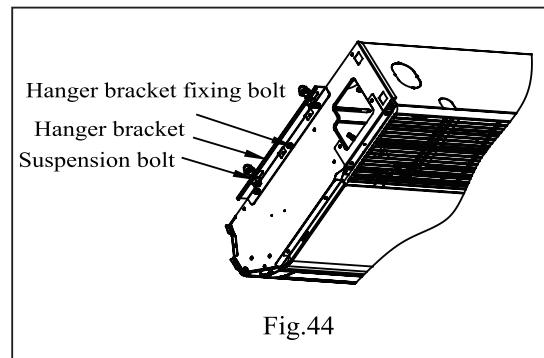

Fig.44
- ③ Loosen two hanger bracket setting bolts (M10) on earth side for less than 10mm. Remove two hanger bracket fixing bolts (M6) on the rear side. Detach the hanger bracket by pulling it backward (See Fig.44)
- Screw tightly both hanger brackets setting bolts (M10.) (See Fig.44)
- Screw tightly both hanger bracket fixing bolts (M6) to prevent the movement of the indoor unit. (See Fig.44)